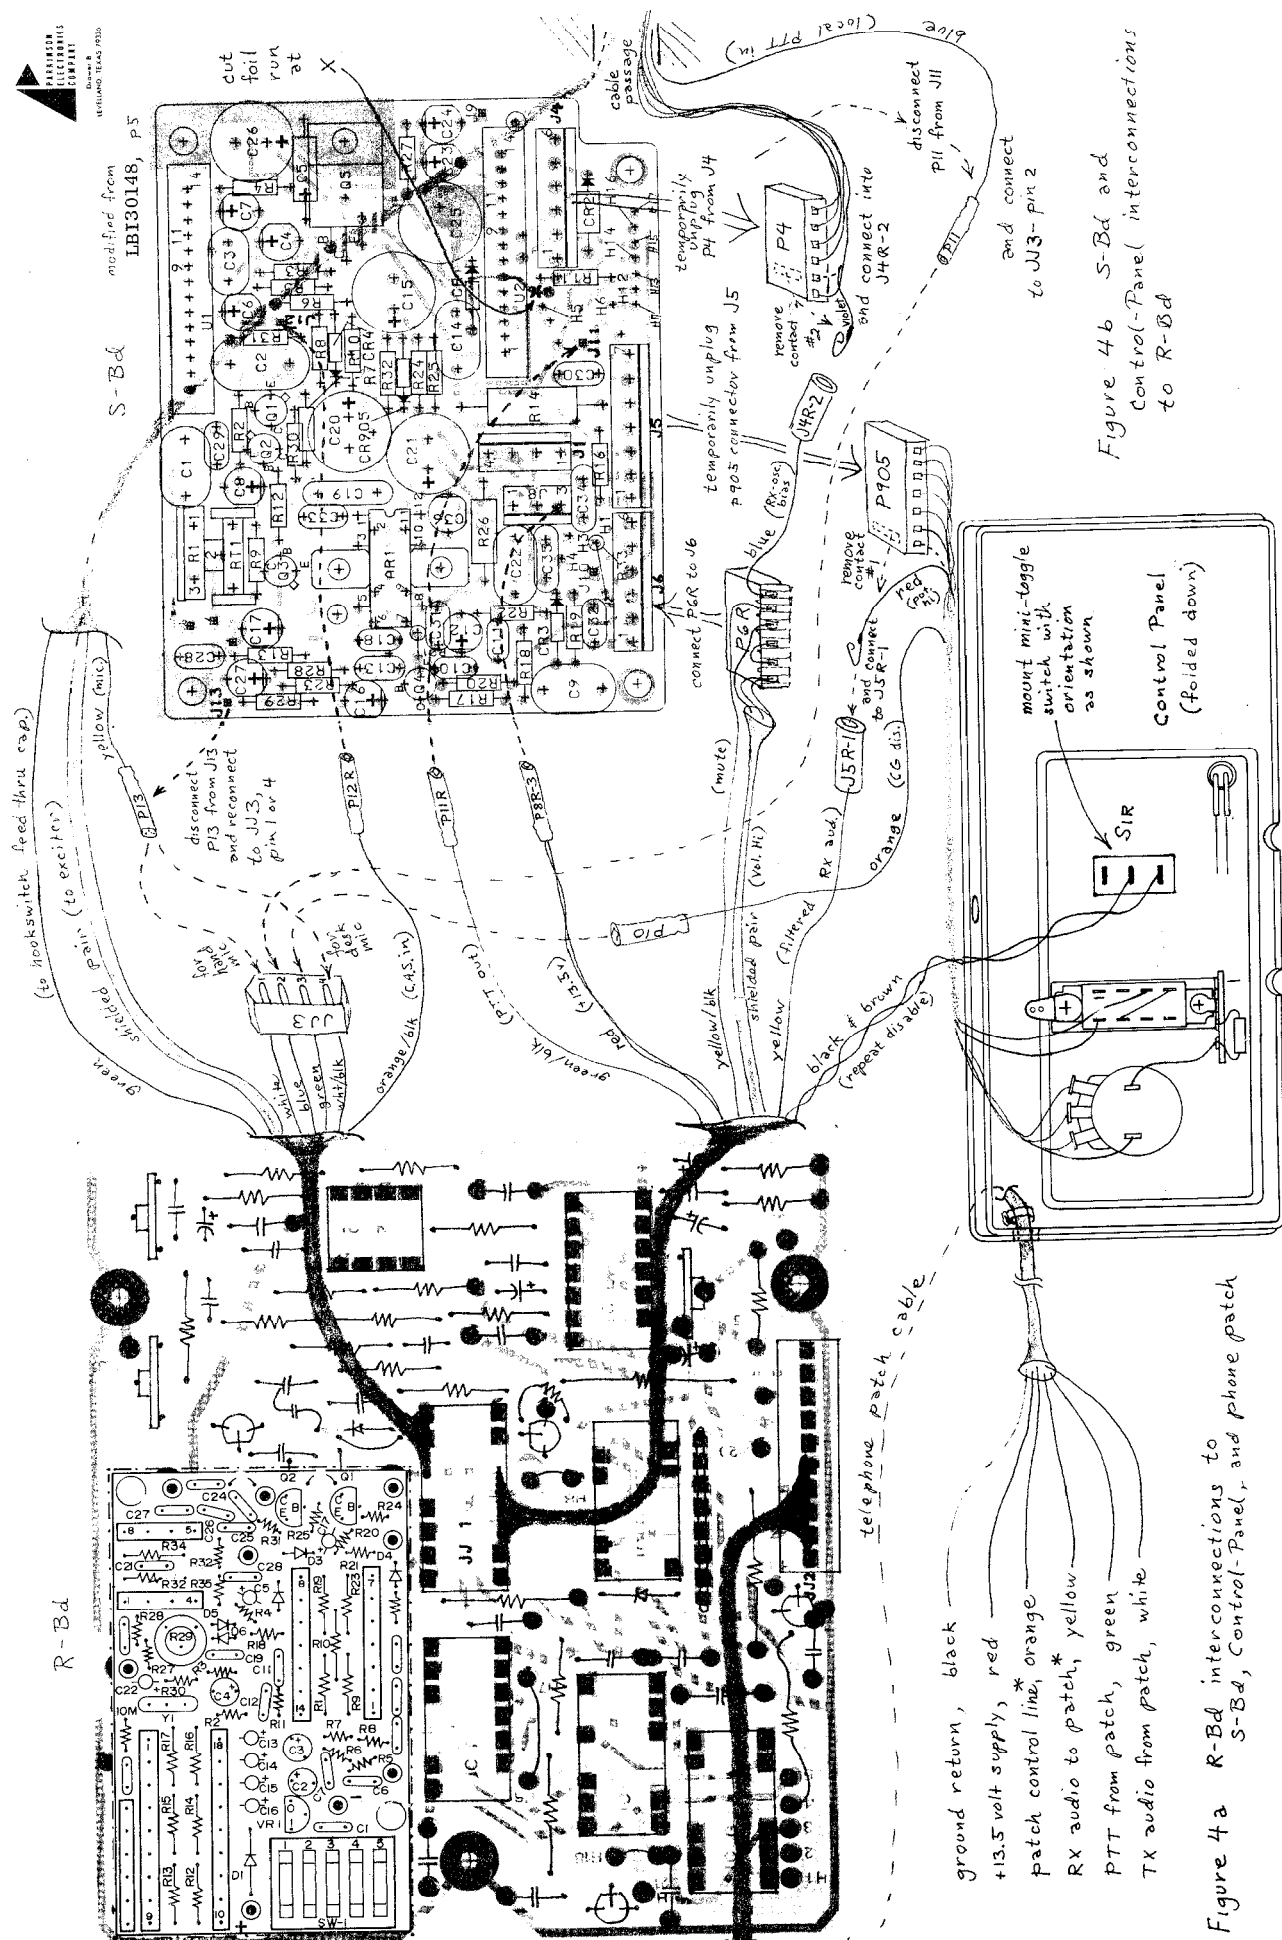

Figure 4a R-Bd interconnections to S-Bd, Control-Panel, and phone patch
15. Program encode/decode frequency for desired Channel-Guard tone by setting 5 levers of SW-1 DIP switch on TSU-32 module. See diagram of Fig. 4a and programming table on parts-list page.